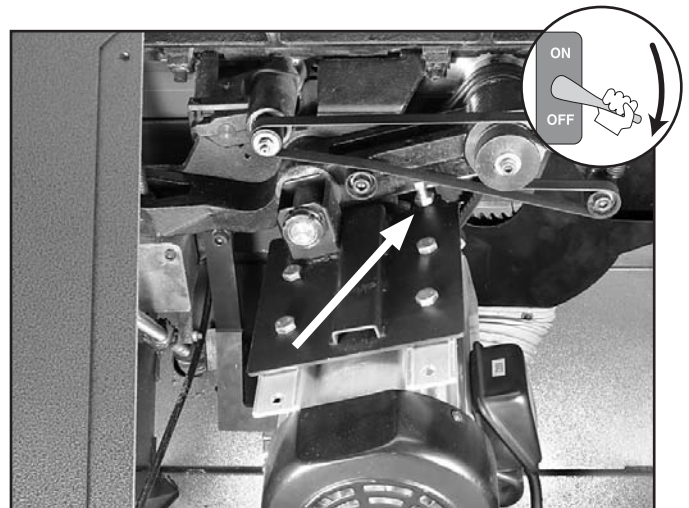

Figure 80. V-belt tension bolt.
3. Loosen the belt tension bolt (**Figure 80**) and pivot the motor up.